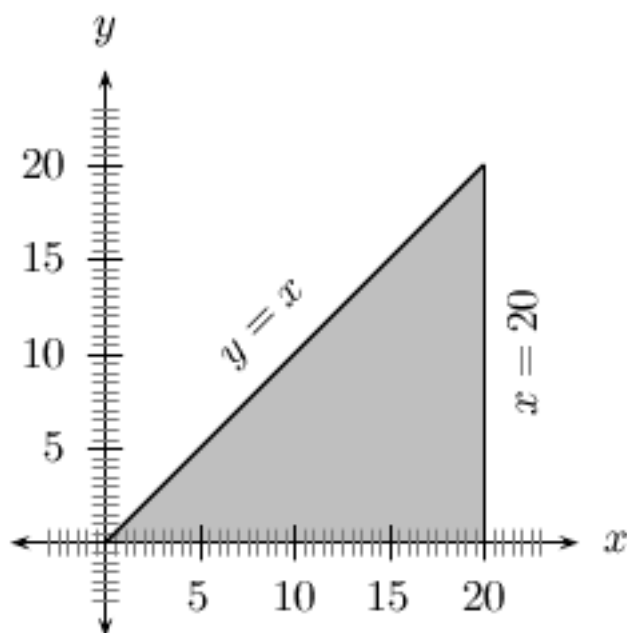

Figure 1: The feasible region corresponding to the constraints $x \geq 0$, $y \geq 0$, $x \geq y$ and $x \leq 20$.
We can use these constraints to draw the feasible region as shown by the shaded region in Figure 1.
When a constraint is linear, it means that it requires that any feasible point (x, y) lies on one side of or on a line. Interpreting constraints as graphs in the xy plane is very important since it allows us to construct the feasible region such as in Figure 1.
The major consequence of the constraints being linear is that *the feasible region is always a polygon*. This is evident since the constraints that define the feasible region all contribute a line segment to its boundary (see Figure 1). It is also always true that the feasible region is a convex polygon.
Consider again the feasible region described in Figure 1. Let's say that we have the objective function $f(x, y) = x - 2y$ with this feasible region. If we consider Equation (4) corresponding to